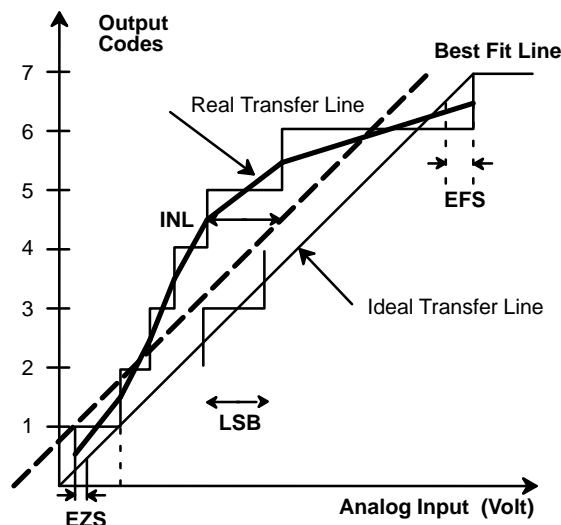

Figure 7. INL Error Calculation (Exaggerated for Visualization)
- Tester measures code transition voltages by dithering the voltage of the analog input (V_{IN}). The difference between the measured code width and the ideal value (V_{REF}/1024) is the DNL error (see Figure 5.). The INL error is the maximum distance (in LSBs) from the best fit line to any transition voltage (See Figure 7.).
Figure 7. gives a visual definition of the INL error. The chart shows a 3 bit converter transfer curve with greatly exaggerated DNL errors to show the deviation of the real transfer curve from the ideal one.